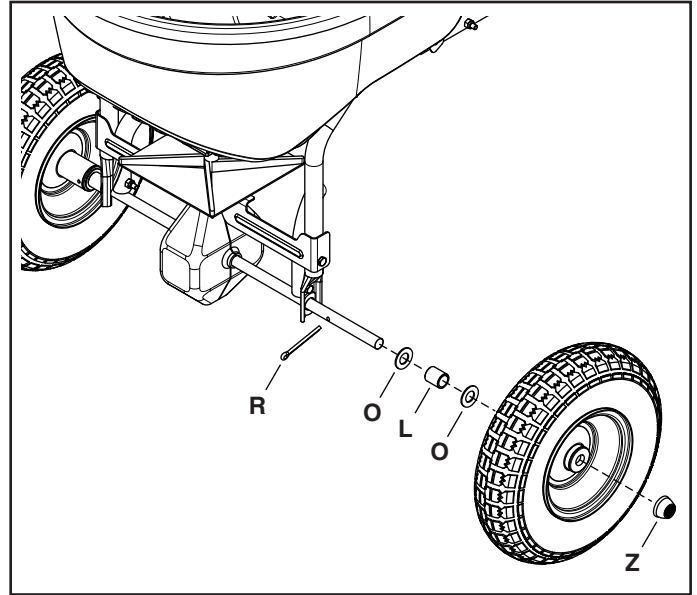

FIGURE 15
STEP 16: (SEE FIGURE 15)
- Slide a 5/8" washer (O), a spacer (L), a 5/8" washer (O) and a wheel onto the end of the axle with a hole.
- Attach the wheel to the axle with a 3/16" x 2" cotter pin (R).
- Carefully hammer a hub cap (Z) onto the axle.